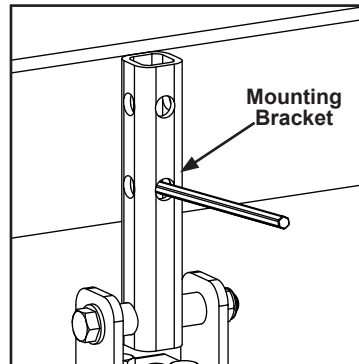
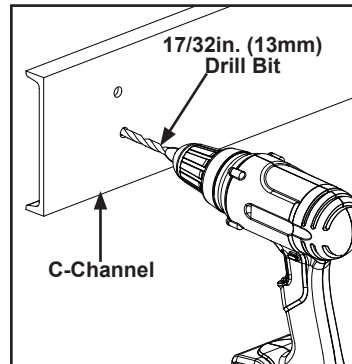

Figure 3-4
Figure 3-5
- Step 2. Using Bolt On C-Channel bracket as a template, transfer hole pattern to overhead structure. Drill with 17/32 in (13 mm) drill bit. See Figure 3-4 and Figure 3-5.